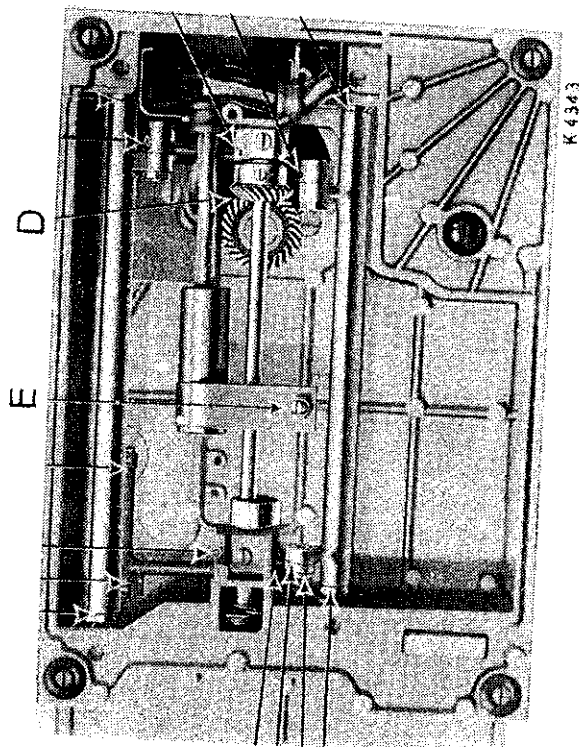

Fig. 20.
To reach the parts underneath the bed turn the machine over on its rear side. Remove the thumb nut and felt washer from the screw (E, Fig. 20) and take off the cover plate. Apply oil at the holes and bearings indicated in Fig. 20, and occasionally apply a small quantity of Singer Motor Lubricant to the teeth of the gears (D). Replace the bed cover plate, washer and thumb nut, being careful not to fasten the latter too tightly.